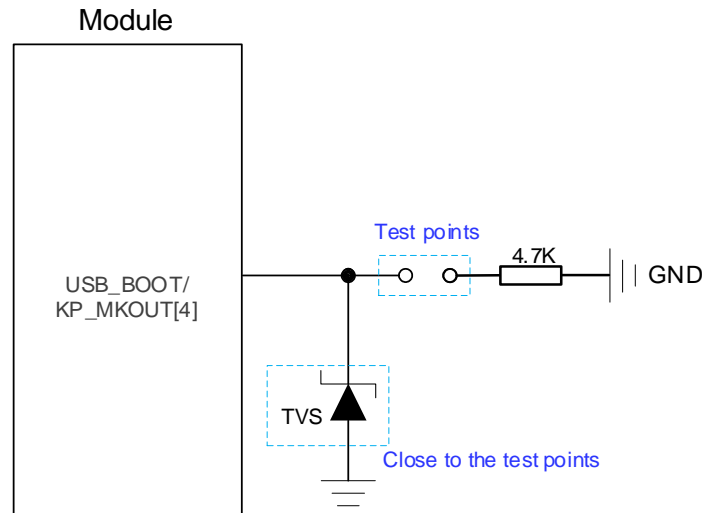

Figure 15: Reference Design of USB_BOOT
2. Follow the above timing when using MCU to control module to enter the forced download mode. Directly connect the test points as shown in **Figure 15** can manually force the module to enter download mode.